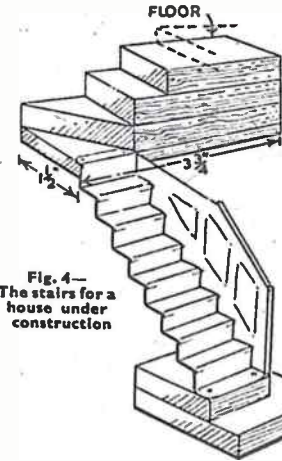

Fig. 4—The stairs for a house under construction
struction. The drawing in Fig. 4 shows a neat design which is easily constructed in $\frac{1}{2}$ in. wood, using the metal stairs previously described. The stairs are secured by means of a screw through from the back (A) and one through the bottom step into the floor. Both screws should be countersunk. The stairs are fixed by means of fretpins through the holes provided.